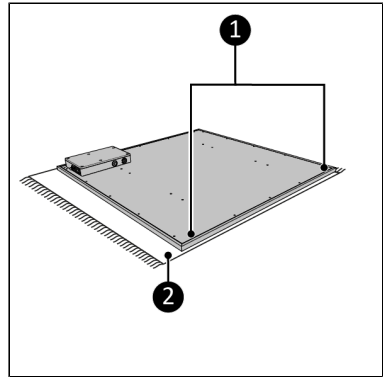

Figure 38.
1. Lay the device down on a steady, soft surface (Figure 38, pos. 2).